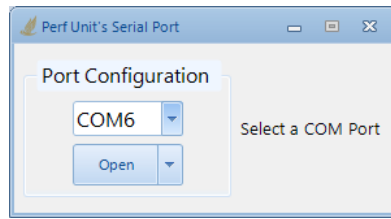

Figure 15
2. Review the About, License, and Help tabs on the ControlFire® Perforating Switch System page and check the **I have read and agree** box and then click **Continue**. The Perf Unit's Serial Port screen will appear after selecting the **Continue** button as shown in Figure 15.